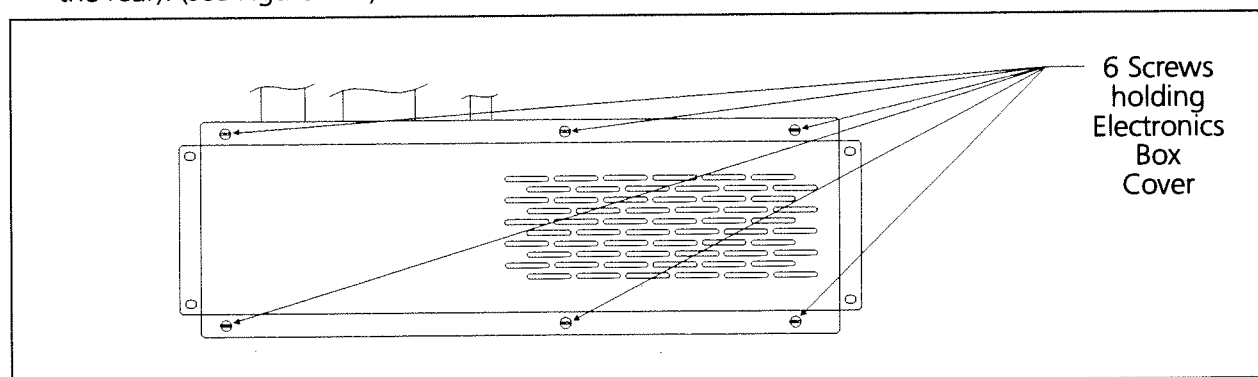

Figure A-5 Removing Electronics Box Cover
4. Remove the 6 screws and cover to the Electronics Box located between the right 2 heads (from the rear). (see Figure A-5)